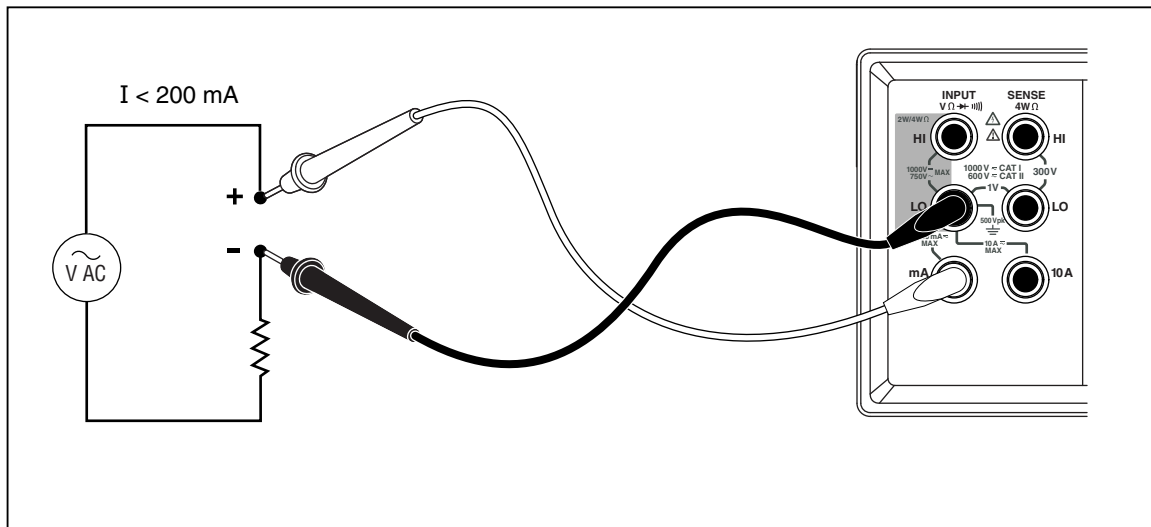

Figure 3-8. Current Measurement <200 mA
4. If the measurement is expected to be below 200 mA, connect the test leads to the 200 mA and LO terminals only and remove any leads in the 10 A terminal. See Figure 3-8.